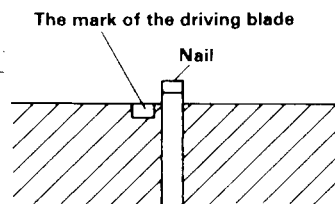
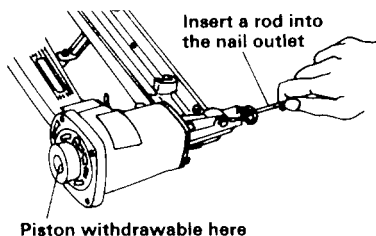
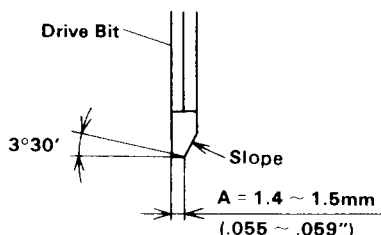

Fig. 12
Fig. 14
Fig. 15
If the drive bit starts to slip to abrasion (Fig. 12), use a file or a grinder to grind the tip of the drive bit to an angle of about $3^{\circ}30'$. See Fig. 15.
- (b) Insert an appropriate rod into the nail outlet to withdraw the piston from the opposite side. (Fig. 14)
(2) Grinding procedures
- (a) Grind the top end as shown in Fig. 15. When grinding the top end by using a grinder, to avoid wear, gradually grind it while cooling the grinding part with water. Excessive grinding may shorten the Nailer service life.